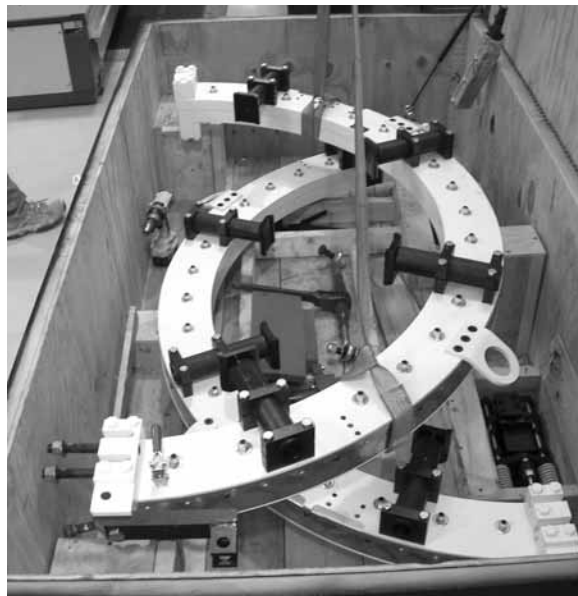

Figure 4-7. Put the second half of the ring into the crate and position it on the taller mounting blocks.
6. Attach the crane to the other half of the ring using lifting straps and lower it into the crate as shown in Figure 4-7.